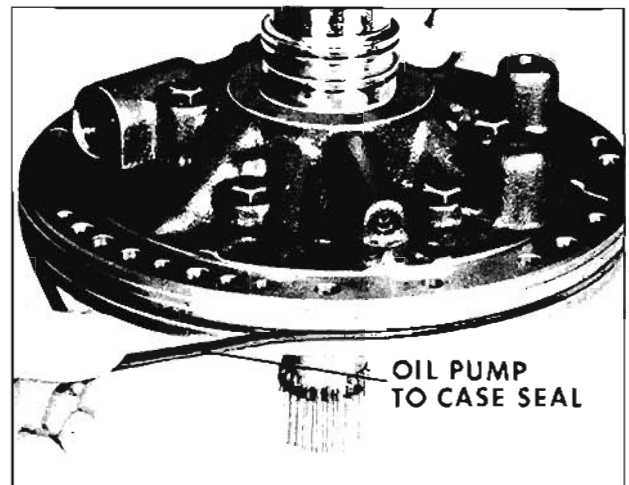

Fig. 6-322 Removing Oil Pump to Case Seal
3. Remove oil pump to case seal and discard. (Fig. 6-322)